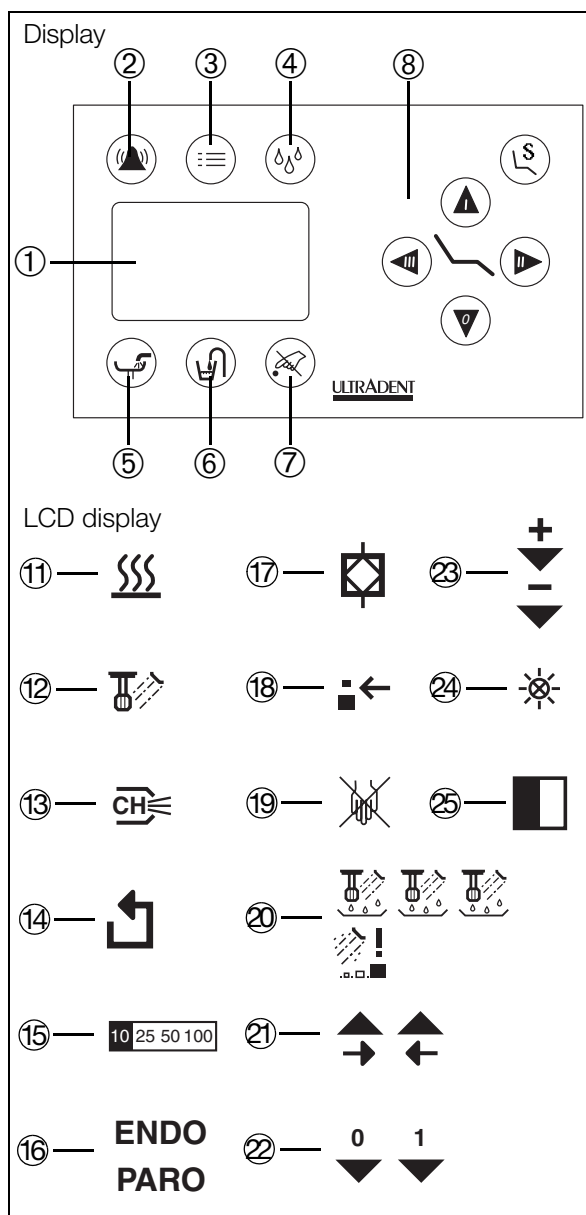

Fig. 42
To change the intensity of the light, remove the motor hose from its holder and then press the menu key ③ (Fig. 42). The sub-menu then appears.
- Keep tapping on the right-arrow ②① (Fig. 42) touch key until the symbol ②④ (Fig. 42) appears.
- By tapping several times on the two touch-keys marked with the symbols ②③ (Fig. 42), the intensity can be changed incrementally.
- Once the required intensity has been set, you return to the main menu by tapping on the ③ (Fig. 42) key.